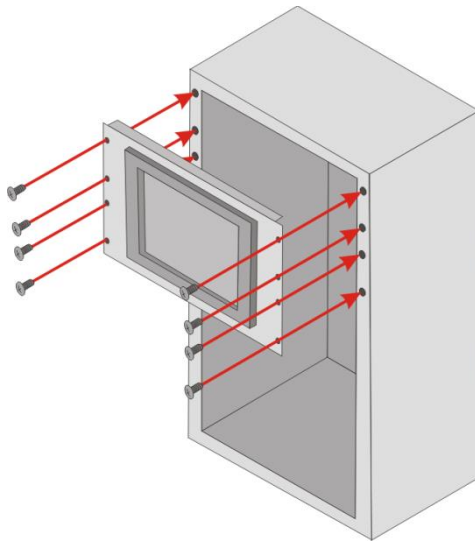

Figure 3-25: Install into a Rack
Step 6: Slide the PPC2-Cxxx-ADL series with the attached rack/cabinet bracket into a rack or cabinet (**Figure 3-25**).
Step 7: Once the flat panel PC with the attached rack/cabinet bracket has been properly inserted into the rack or cabinet, secure the front of the rack/cabinet bracket to the front of the rack or cabinet (**Figure 3-25**).